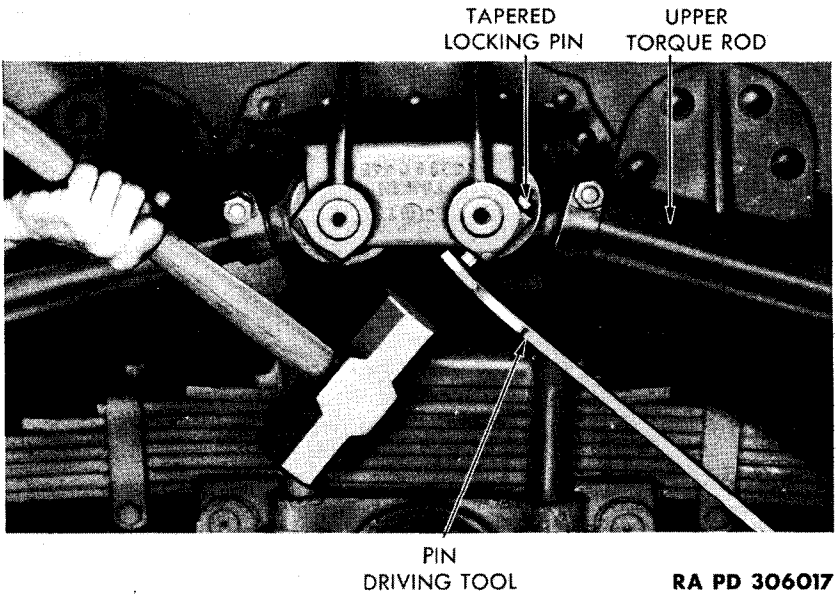
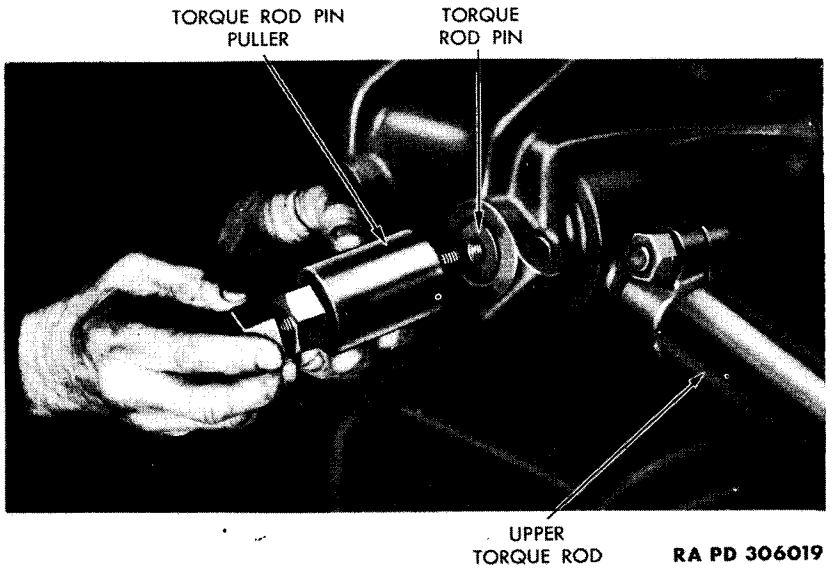

Figure 121—Driving Out Tapered Locking Pin
Figure 122—Installing Puller on Upper Torque Rod Pin
a. **Remove Upper Rod.** Disconnect outer end of upper rod (par. 113). Using a pin or punch (fig. 121), drive tapered dowel from inner end rod anchor pin. Install puller (41-P-2956-8) (fig. 122), and pull anchor pin from bracket. Remove rod from vehicle.